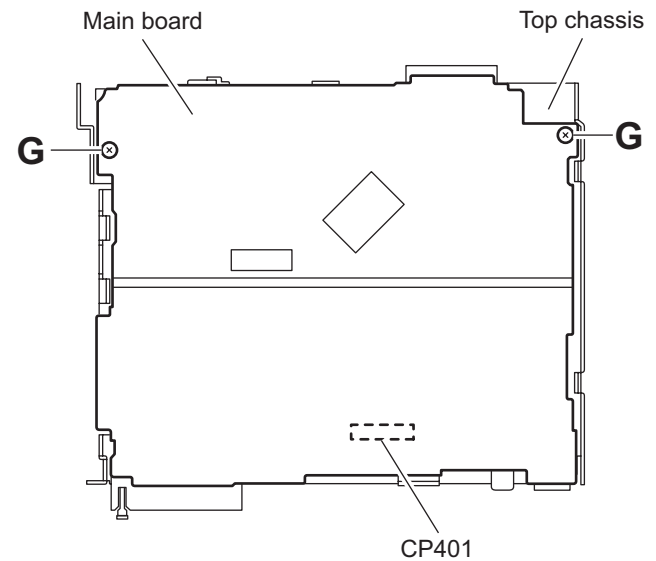

Fig.6
2.1.6 Removing the main board (See Fig.6)